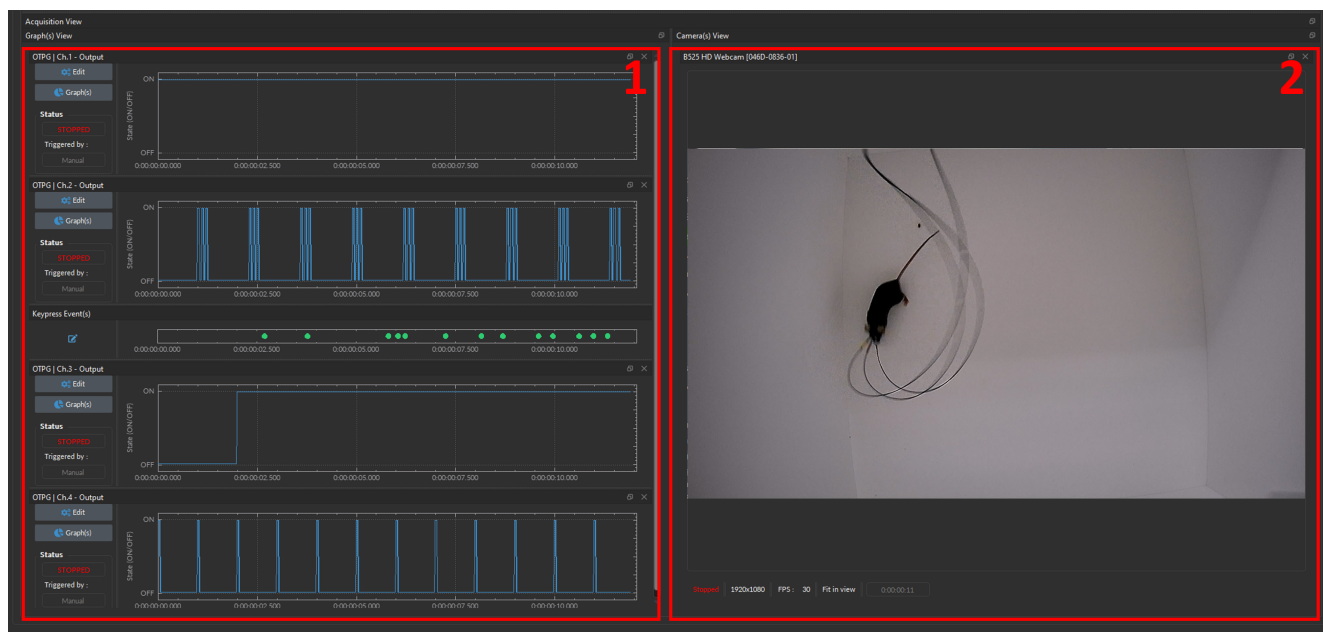

Figure 8.25: Acquisition View
The **Acquisition View** (Fig. 8.25) is split into two separate divisions (when **Camera Channel** is used), each of which visualizes different types of data in the following sections:
1. The **Graph View** (Fig. 8.25, 1) - Section 8.3.1;
2. The **Camera View** (Fig. 8.25, 2) - Section 8.3.2;